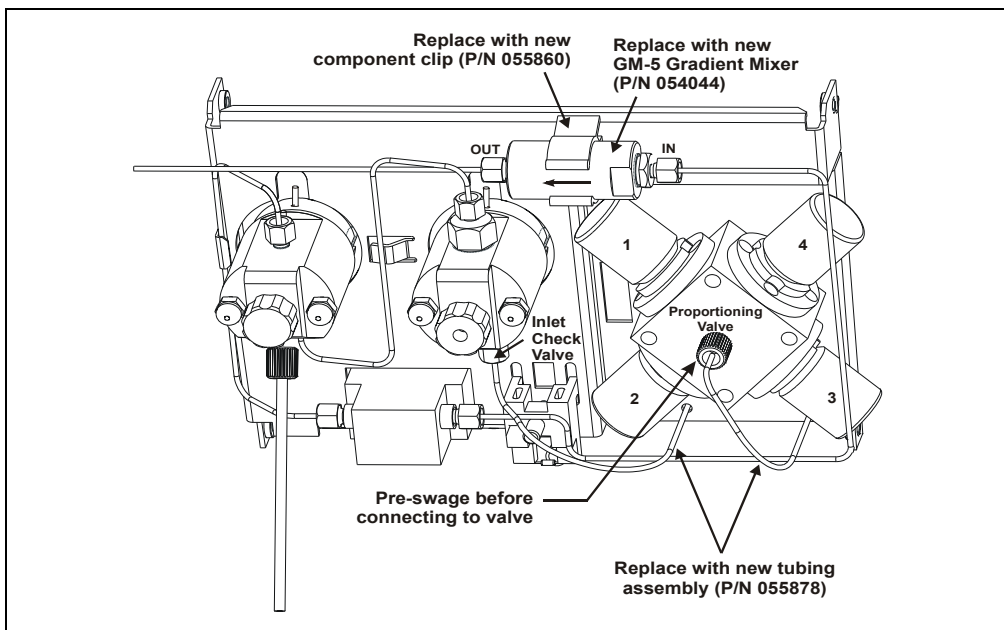

Figure 5-7. Replumbing the GS50 to Change the Delay Volume
3. Remove the tubing assembly installed between the proportioning valve and the primary pump head (see Figure 5-7).